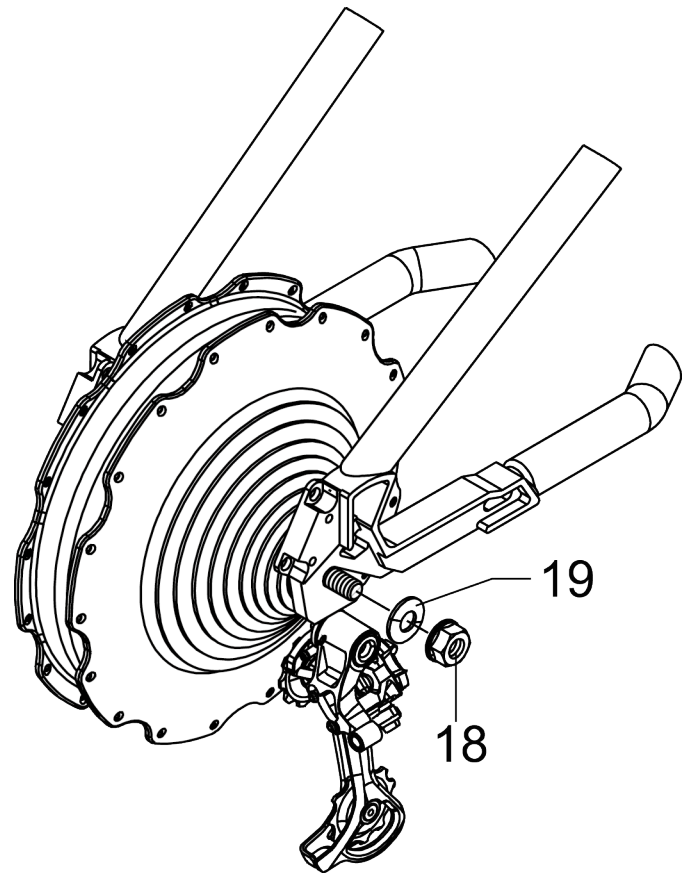

Fig. 13: Fastening to the fork [1]
- first tighten on the side of the gear shift (**Fig. 13**)